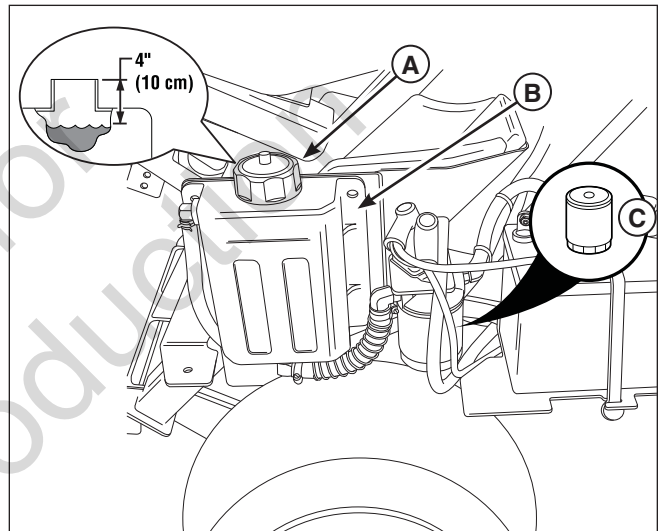

Figure 15. Servicing the Hydraulic System
2. Unscrew the reservoir cap (**A**, **Figure 15**).